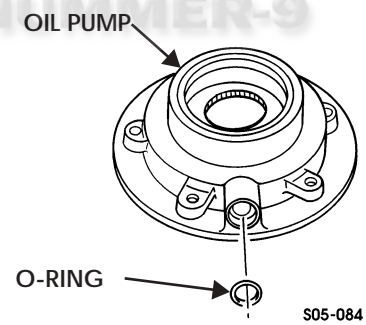

Figure 5-137: O-Ring
20. Remove and discard O-ring from oil pump (Figure 5-137).
21. Remove snapping from mainshaft (Figure 5-137).